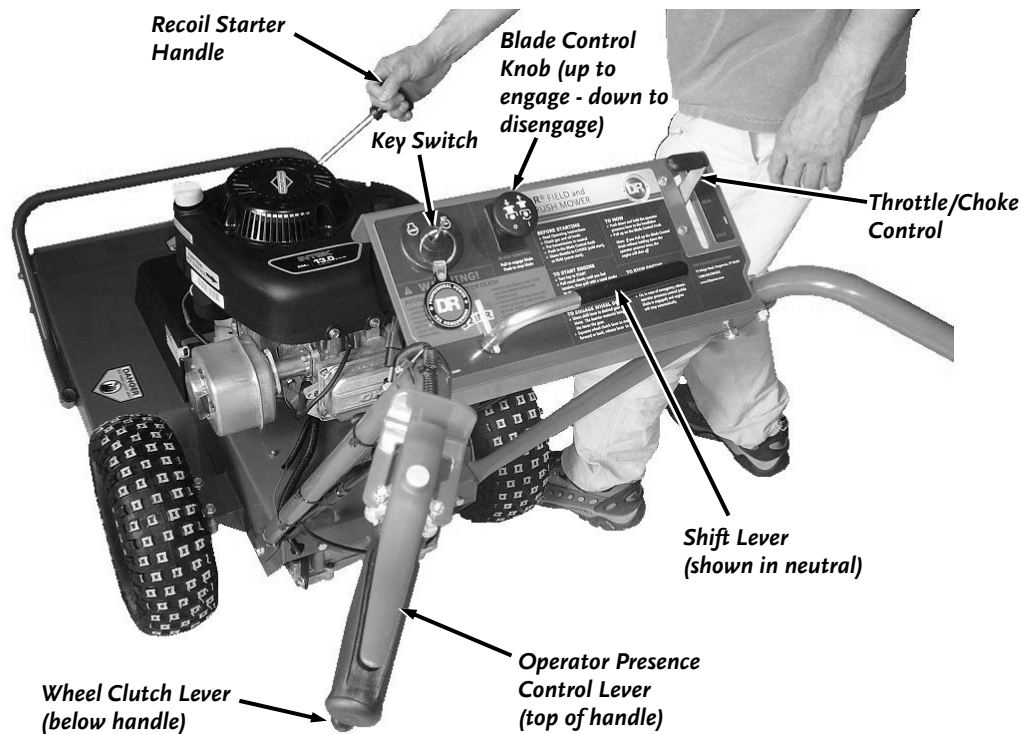

Figure 5
1. Move the Shift Lever to N (Neutral) (**Figure 5**).
NOTE: Always release the Wheel Clutch Lever (**Figure 5**) when shifting gears.
1. Hold down the Operator Presence Control Lever (**Figure 5** on page 12).
1. Push in the Blade Control Knob (**Figure 5** on page 12).
1. Stop the Blade by pushing in the Blade Control Knob (**Figure 5** on sheet 12).